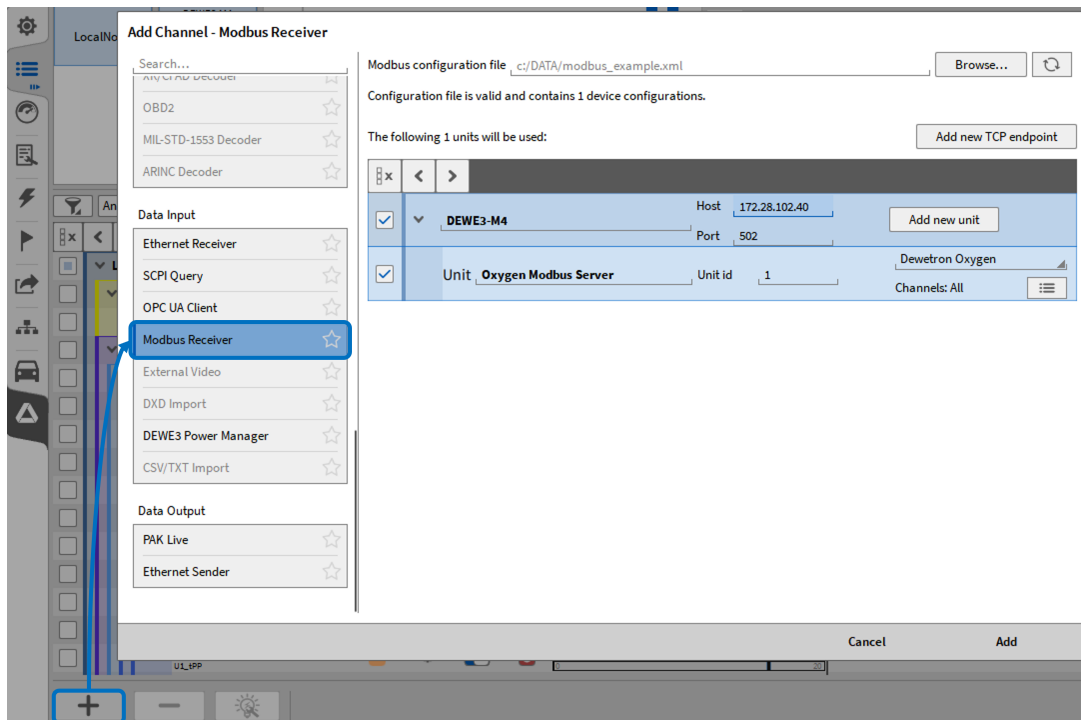

Fig. 4.1: Activate and MODBUS client in OXYGEN
- Select *MODBUS Receiver* in the Data Input section (see in Fig. 4.1)